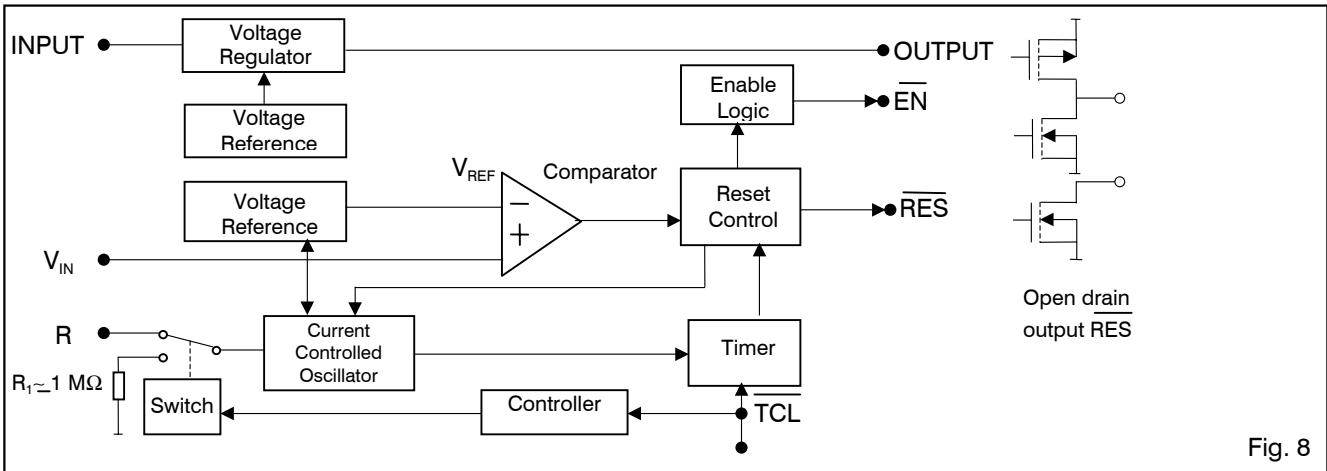

Fig. 8
- ²⁾ Full operation guaranteed. To achieve the load regulation specified in Table 3 a 22 μ F capacitor or greater is required on the INPUT, see Fig. 8. The 22 μ F must have an effective resistance $\leq 5 \Omega$ and a resonant frequency above 500 kHz.
- ⁶⁾ The comparator and the voltage regulator have separate voltage references (see "Block Diagram" Fig. 8).